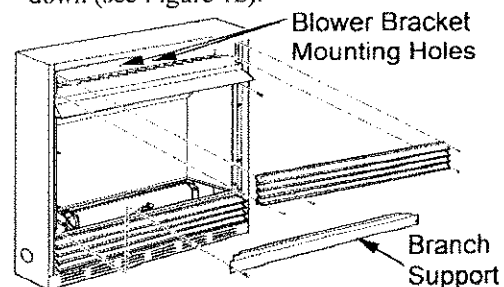
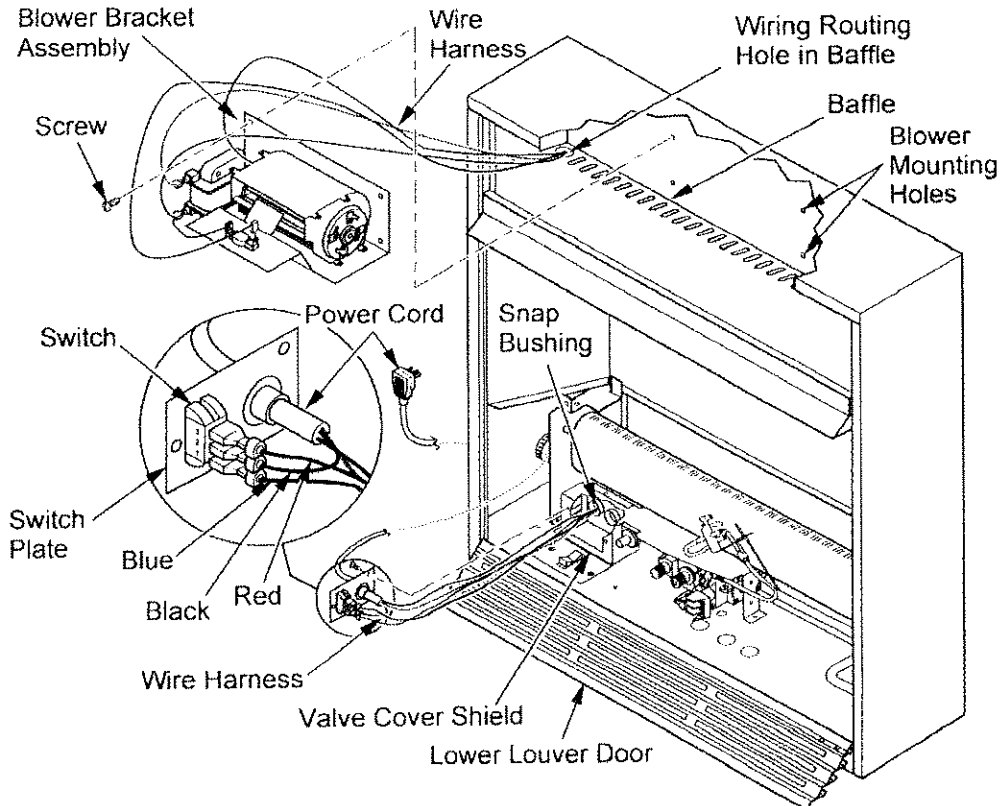
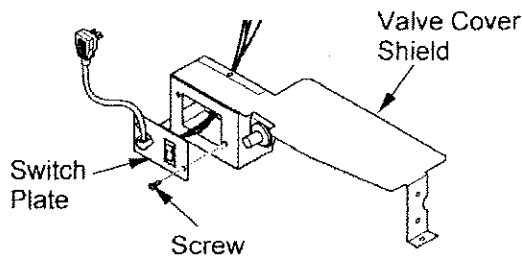

Figure 14 - Removing Top Louver and Branch Support
Figure 15 - Installing Blower Bracket Assembly
Figure 17 - Installing Switch Plate to Valve Cover Shield
2. Remove 2 screws from each side of branch support and pull branch support out (see Figure 14).
3. Remove 4 screws from upper louver assembly (see Figure 14). Save these screws.
3. Note the wire locations on back of AUTO/OFF/ON switch. The terminals on back of switch are numbered 1, 2, and 3. Carefully remove red wire from terminal 3 and blue wire from terminal 1. Black wire can remain on middle terminal 2 (see Figure 15).
5. In top of the fireplace cabinet, locate the four mounting holes on the outer casing. Align these four holes with those on the blower bracket assembly. Attach blower bracket assembly to the outer casing with 4 #10 screws provided (see Figure 15).
6. Route the wire harness through the hole in left side of baffle. Pull wire harness through lower opening on the side of the valve cover shield. (see Figure 15).
7. Insert the 4 wire harnesses into one of the round holes in the rear of the valve cover shield and through the rectangular hole in the front of shield (see Figure 15).
- Install the switch plate on the valve cover shield with 2 #10 screws provided (see Figure 17). Route power cord out of the cabinet by inserting it through the bushing on the outer casing (see Figure 15, page 14). Plug fan kit into 120-Volt grounded power supply and test operation. **Note:** When switch is in the AUTO position, the fan will start after the fireplace has run for a few moments. The fan will continue to run for several moments after the fireplace has been turned off. When switch is in the ON position, the fan will run until turned to OFF. Reinstall upper louver assembly (see Figure 14, page 13) and branch support. Close lower louver door.
- Reinstall upper louver assembly (see Figure 14, page 13) and close lower louver.